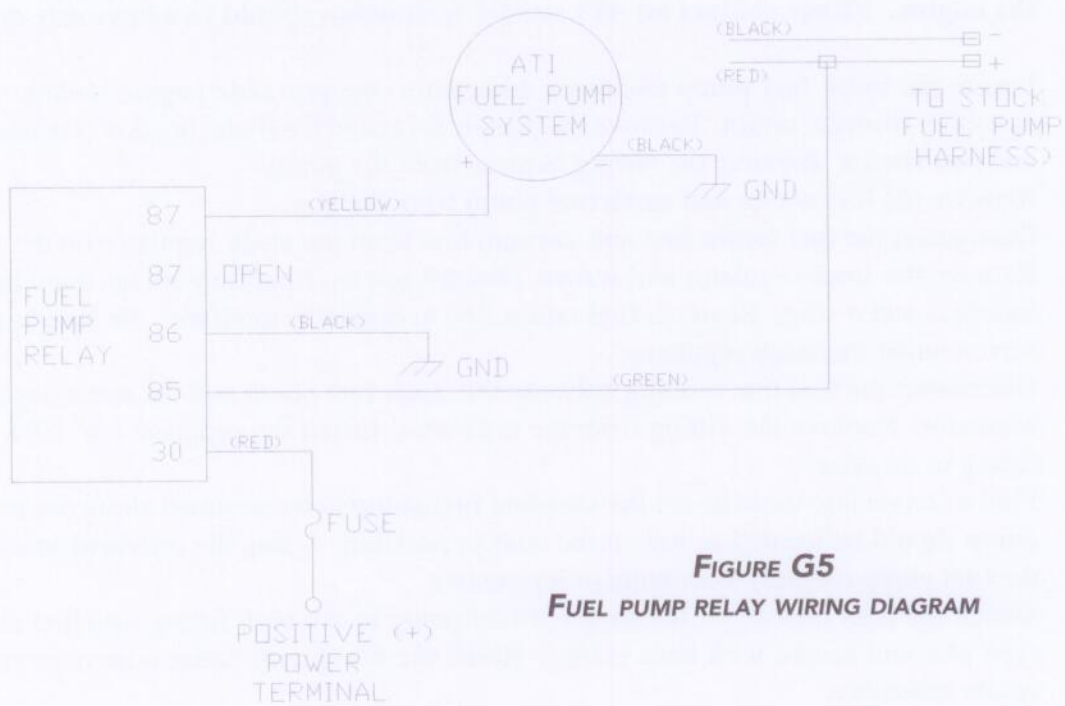

FIGURE G5
12. Attach the black ground wire from the relay (#86) to a ground on the engine or to the negative ground terminal on the fuel pump. See figure G5.